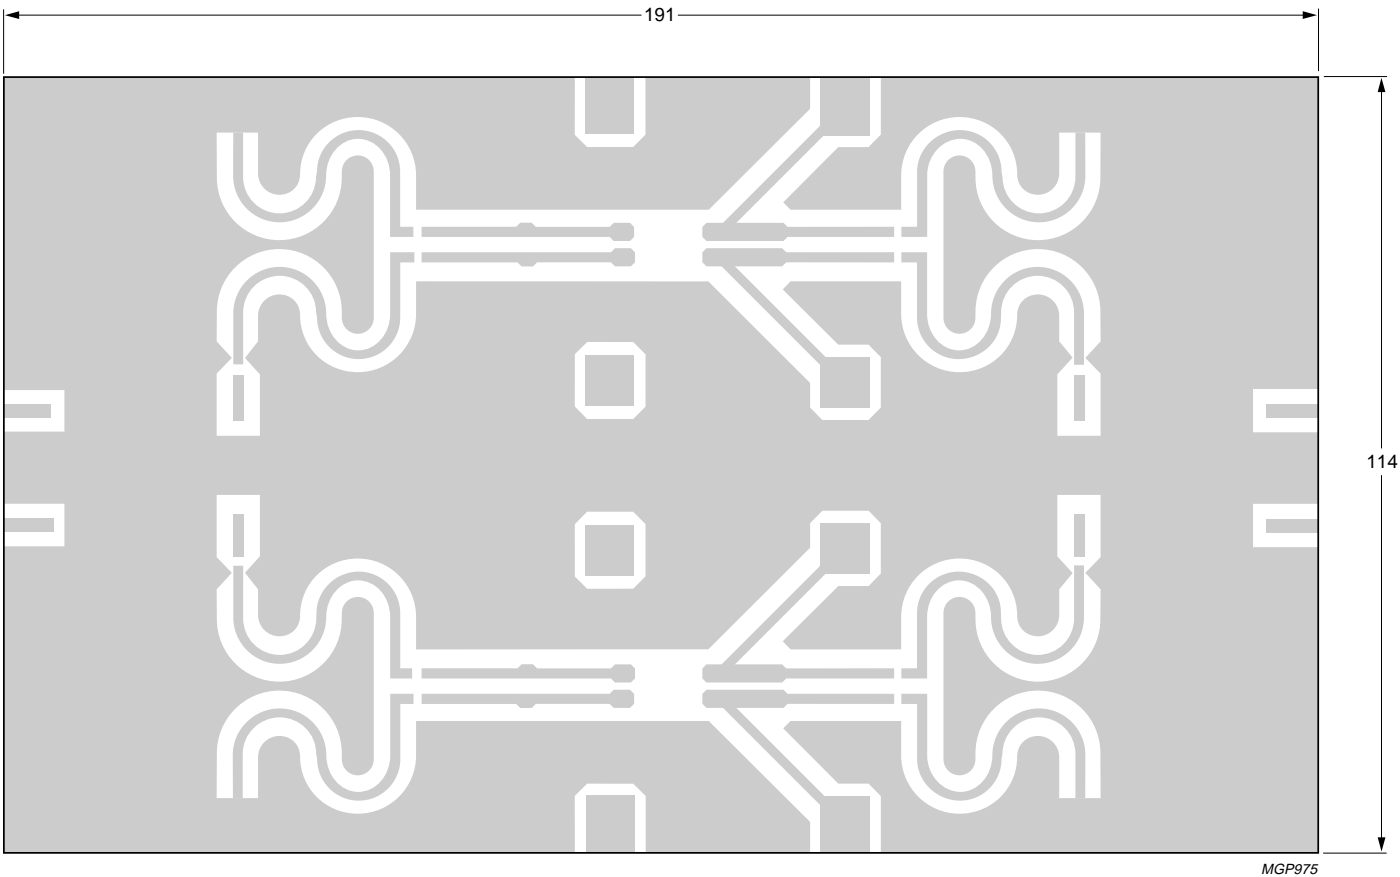

Fig.1 Printed circuit board.
In the printed-circuit board rectangular holes have been made to mount the BLV57 transistors on the heatsink. For fastening of the printed-circuit board on the heatsink by means of screws, 7 holes of 3.1 mm \varnothing and for fastening of the hybrid couplers 8 holes of 2.6 mm \varnothing have been made on the indicated places (see Figs 1 and 2). Hereby has been taken into account the use of Anaren hybrid couplers, type 10264 – 3, suited for the frequency range of 500 – 1000 MHz. Because the 2 bias units have been situated at the lower side of the heatsink, the connections from these units to the circuit take place through the printed-circuit board and the heatsink. For this purpose 9 holes of 2 mm \varnothing are necessary (4 collectors, 4 bases and 1 ground). To make a good ground contact between the upper and the lower side of the printed-circuit board the following measures have been taken:
- On 8 spots rivets have been used and soldered at both sides to the metallization of the printed-circuit board. The holes of 2 mm \varnothing , needed for these rivets, have been situated as indicated in Figs 1 and 2.